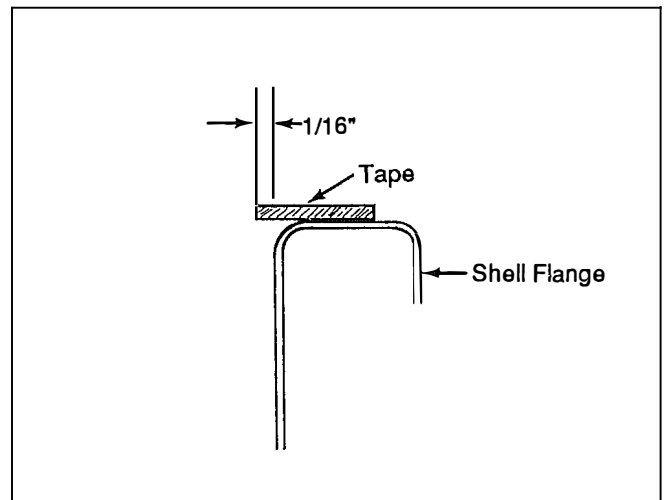

Figure B4 - Shell Flange Tape Position
3. Place a layer of 1/2" wide x 1/16" thick double back tape on the entire length of the shell flange, allowing about 1/16" of tape to extend over the outside edge of the shell. See Figure B4.